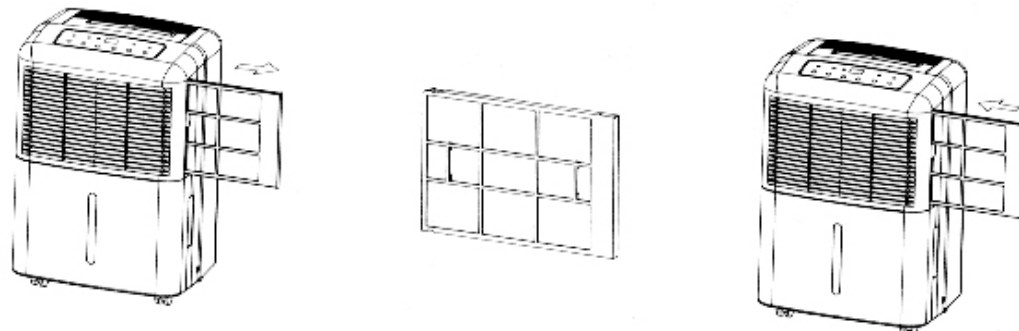

Figure 4: Maintenance on the Air Filter
1. Remove Air Filter (see Figure 4 on page 6).